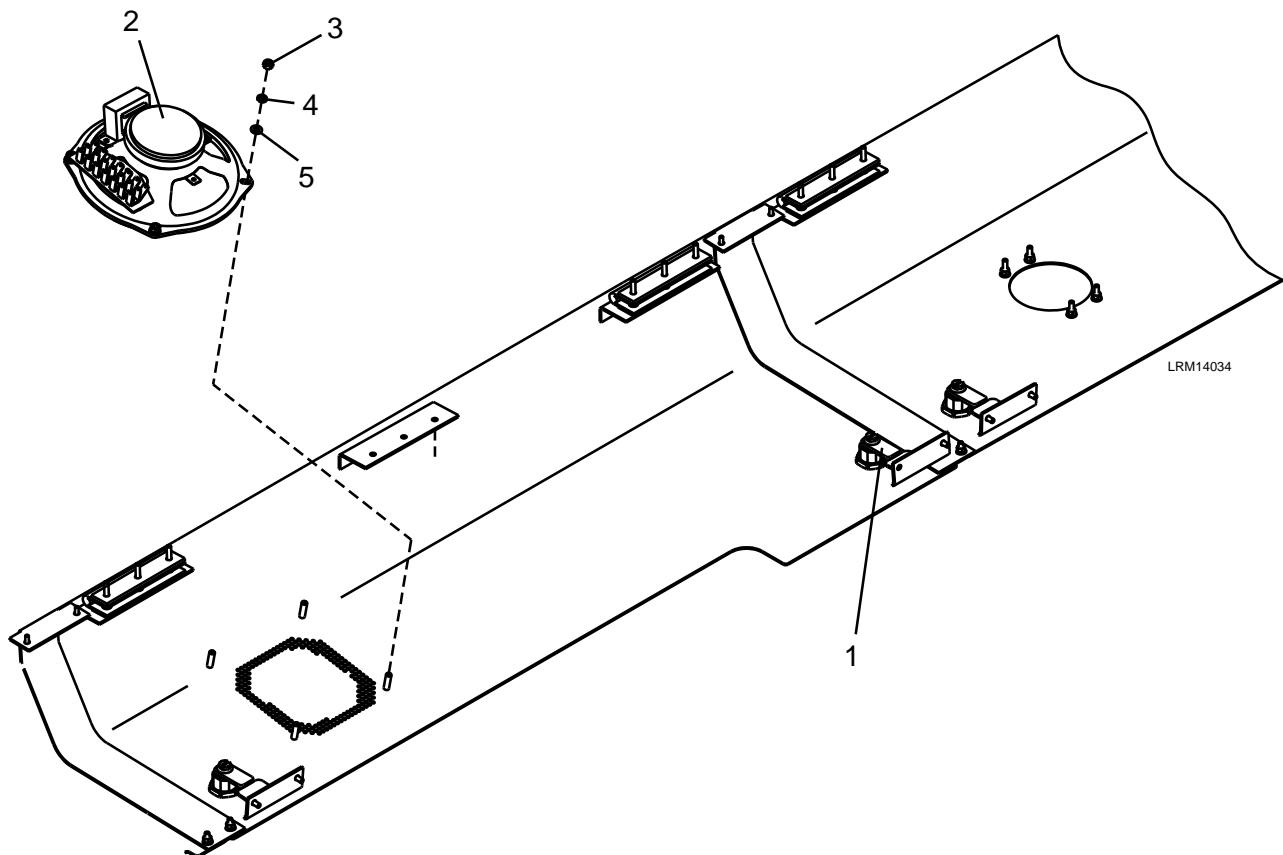

Figure 8-15: Interior 6" Speaker
2. Disconnect the Faston connectors from the Interior Speaker (2). See Figure 8-15.
3. Remove the four M5 nuts (3), M5 lock washers (4) and M5 plain washers (5).
4. Remove the Interior Speaker (2).